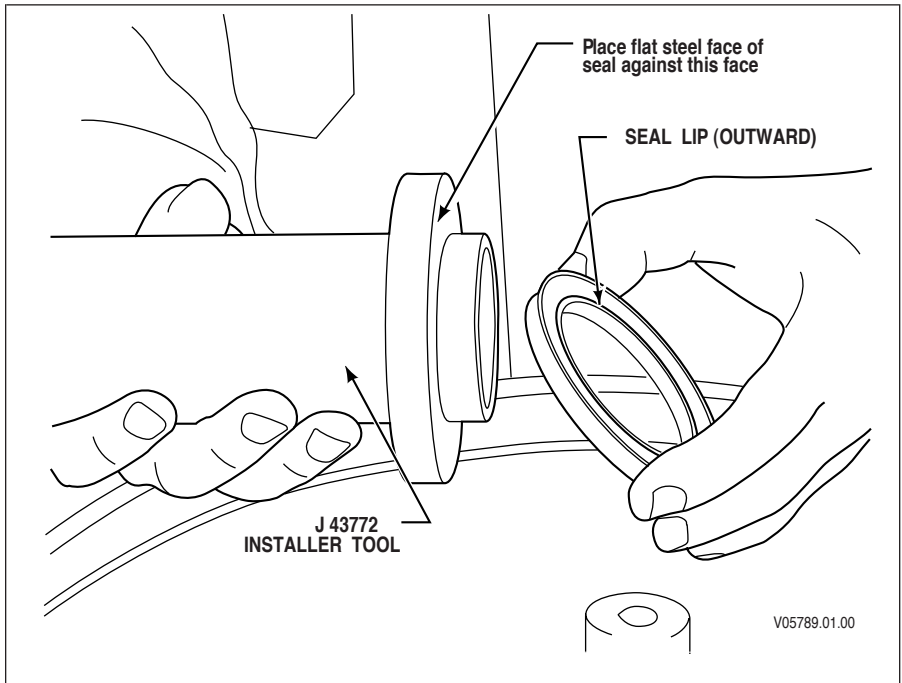

Figure 6-15. Positioning New Seal on Installer Tool
2. Install a new seal onto the J 43772 installer tool. Position the seal so that the rubber enclosed face is against the driving force of the tool (refer to Figure 6-15) with the lip of the seal facing toward the pump bushing.